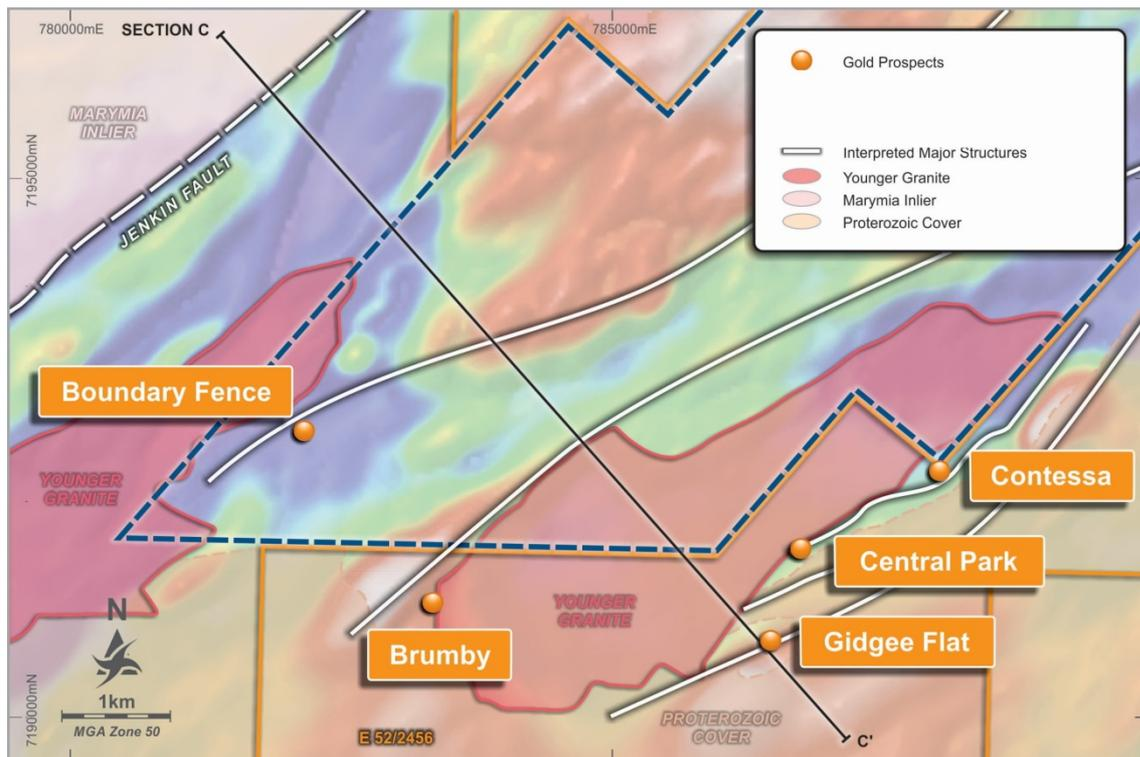

Figure 1 Prospect location plan, background magnetic image.
- 3 additional RC holes were completed on the contact zone 1500m southwest of Contessa, at the Central Park prospect (Figure 1).